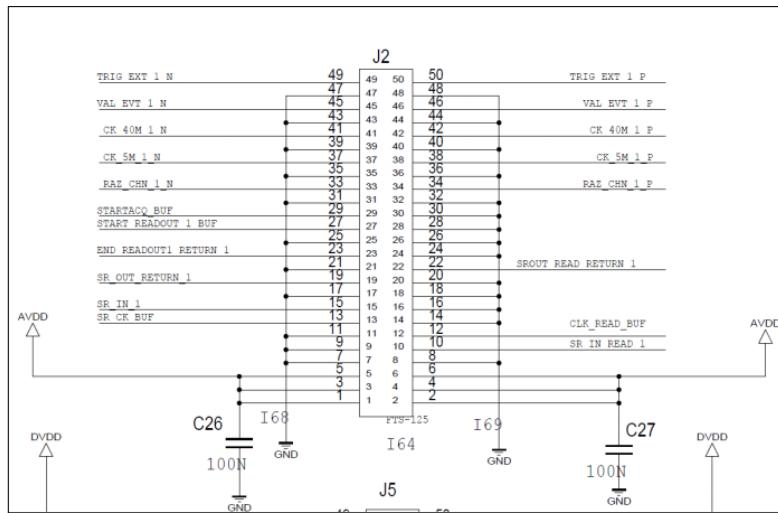

Figure 1.21: J2 connector pin-out
2. Then take a 50 pins flat cable (that you are then going to connect to the J2 connector). Cut in the middle the wires number 13, 49 and 50 (SR\_CK\_BUF, TRIG\_EXT\_N and TRIG\_EXT\_P respectively). Refer to Figure 1.21 for the flat cable pin-out. Strip the "ASU end" of these wires. By ASU end I mean the end that is not to be connected to the interface but to the ASU. If needed do the same for the other flat cables coming out the connectors J6, J8 and J10.